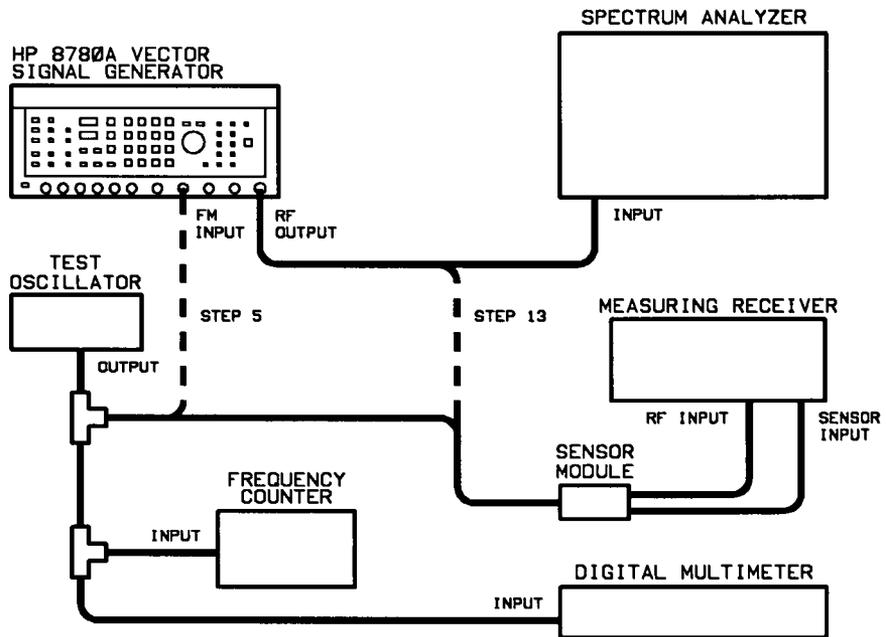

Figure 4-6. FM Accuracy (ac Coupled) Test Setup
2. Once the calibration is complete, set the Generator to 70 MHz at an output level of 0 dBm. Connect the equipment as shown in Figure 4-6.